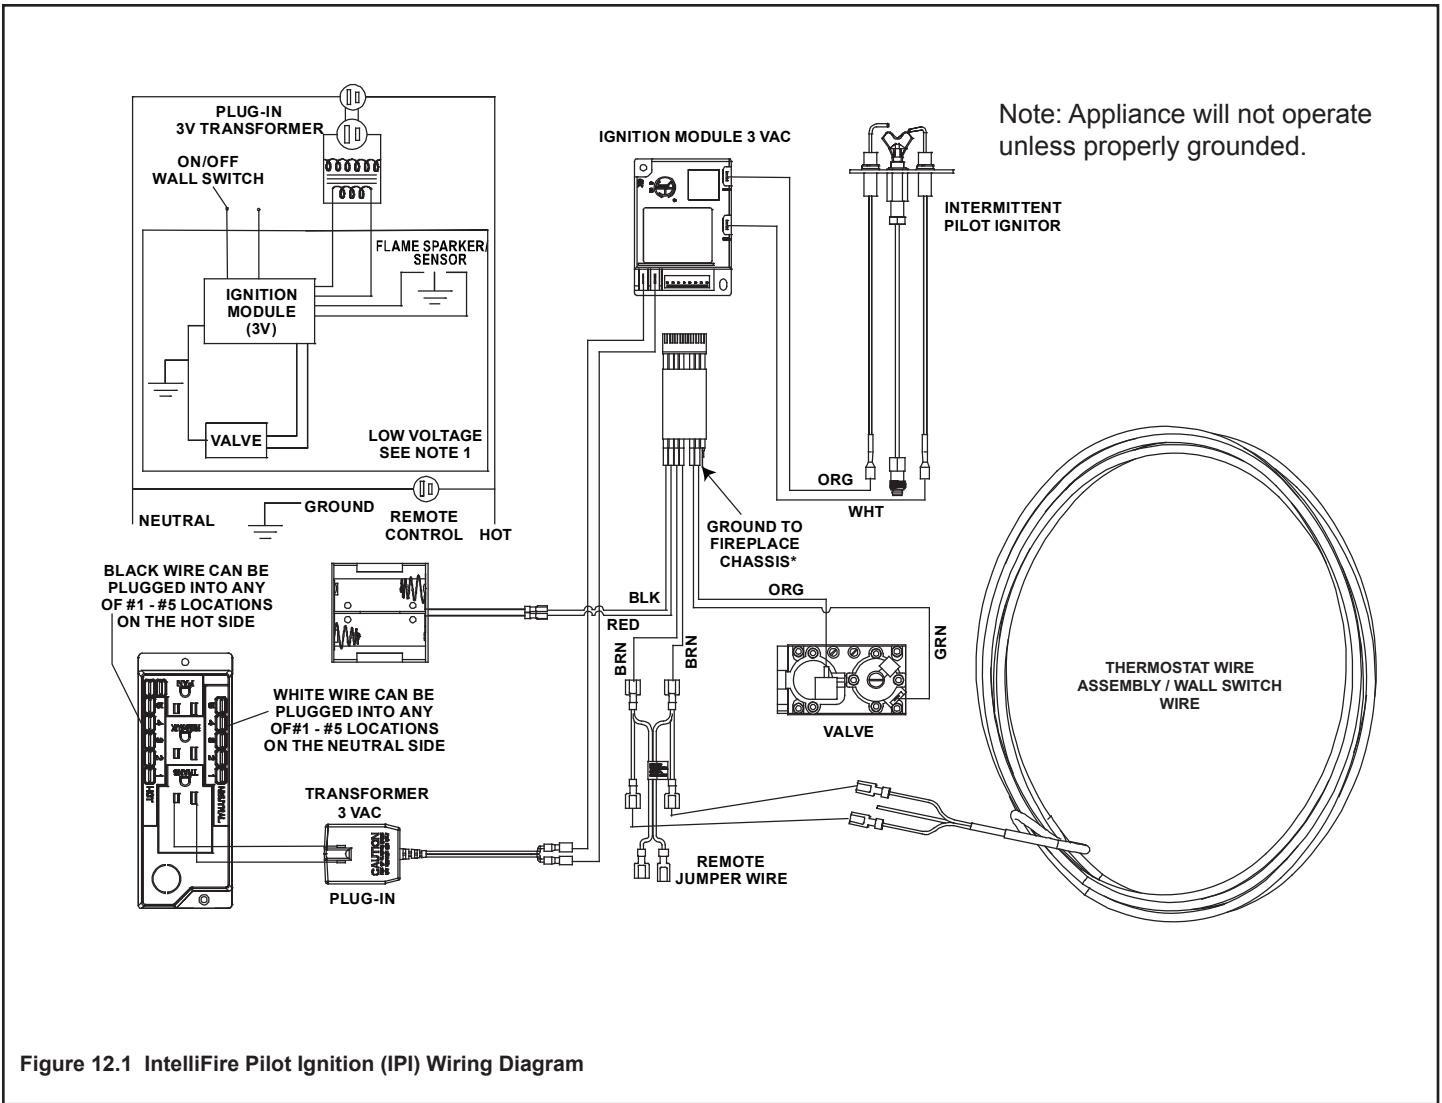

Figure 12.1 IntelliFire Pilot Ignition (IPI) Wiring Diagram
- Refer to Figure 12.1, Intellifire Pilot Ignition (IPI) Wiring Diagram.